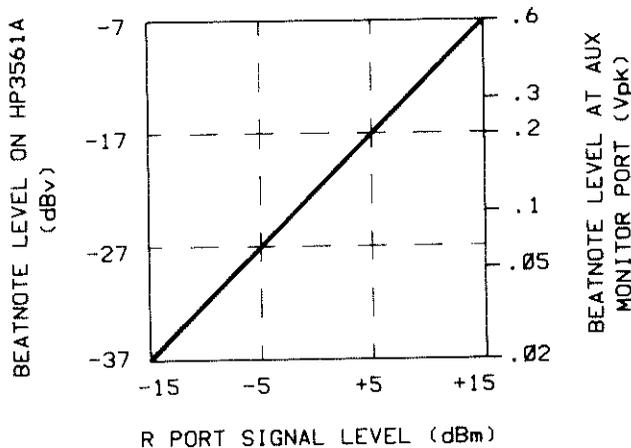

Figure 8-4. Beatnote Level Relative to the Signal Level at the R Port.
1. Observe the beatnote on the time record of the HP 3561A or on an oscilloscope connected to the AUX MONITOR port of the HP 11848A. Verify that the beatnote amplitude is correct for the signal level at the R input port on the HP 11848A. Figure 8-4 shows the relationship between the beatnote level and the level at the R input port.